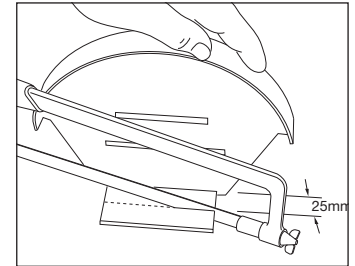

Fig. 8 – Trimming the ridge cap
- 2 When using a ridge end cap with either the Marley dry ridge or RidgeFast systems, the bottom flange of the cap will need to be reduced to 25mm overall depth (Fig. 8). Fix the ridge end cap using the 2 No. 25mm x 10g stainless steel screws provided in the fixing kit.